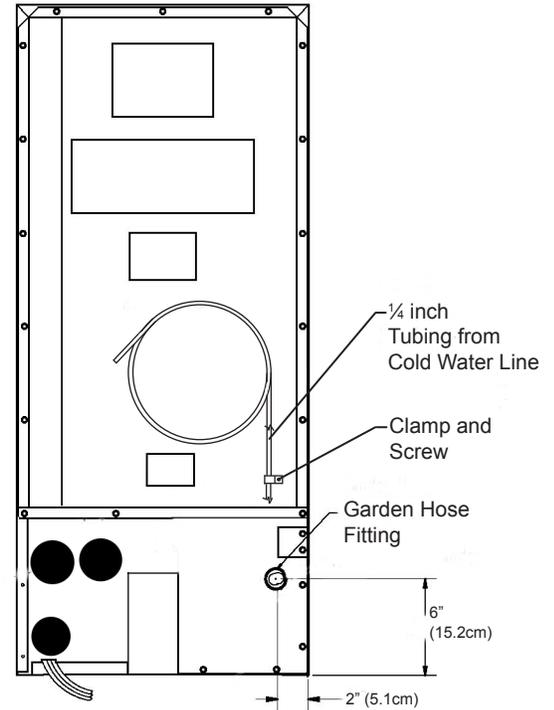

Figure 8
- Allow for extra water line coiled behind the unit as shown in Figure 8 for built-in installations for easy removal of ice machine and to help prevent the water line from kinking.
Secure the water supply line to the back of the cabinet with the screw and clamp provided in the corner of the back panel. (See Figure 8).